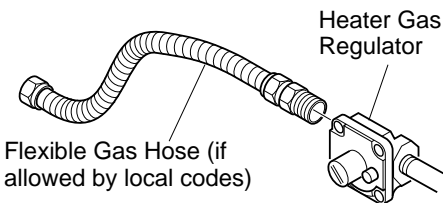

Figure 11 - Attaching Flexible Gas Hose to Heater Gas Regulator
1. Apply pipe joint sealant lightly to male threads of gas connector. Install into regulator. Connect approved flexible gas hose to gas regulator of heater (see Figure 11, page 11).